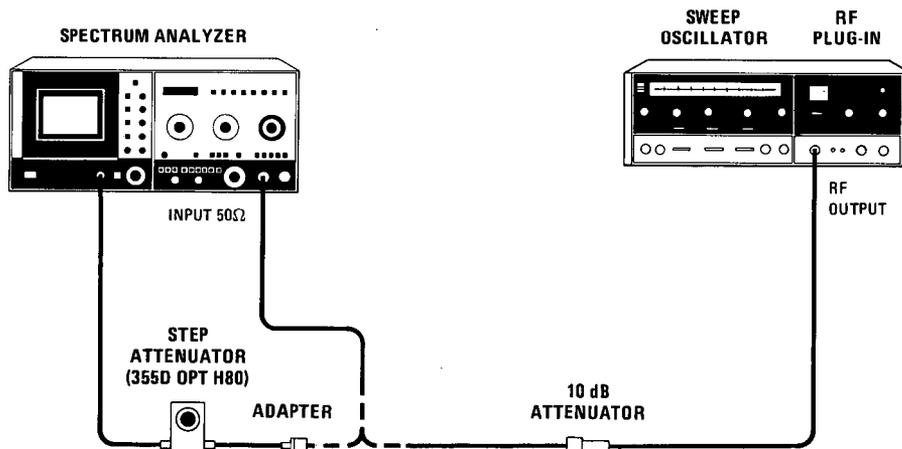

Figure 4-14. Input Attenuator Accuracy Test Setup
- b. Connect equipment as shown in Figure 4-14 using CAL OUTPUT signal and step attenuator. Set step attenuator to 0 dB. Adjust spectrum analyzer TUNING control to center signal on CRT.
- h. Disconnect step attenuator from spectrum analyzer input and connect sweep oscillator output through 10 dB attenuator as shown in Figure 4-14.